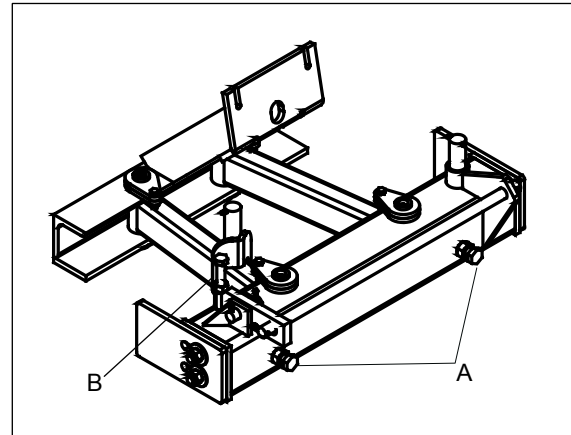

figure 1
Scissor swing - Turn adjustment screw (B) (figure 1) in to lower the right-hand side of the brush head assembly. Turn it out to lower the left-hand side.